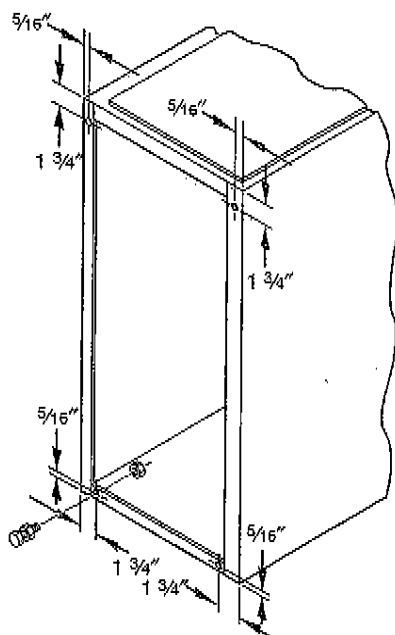

Fig. 7—Leveling Leg Installation
When the furnace is used with side inlet(s) and leveling legs are required, refer to Fig. 7, and install field-supplied, corrosion-resistant 5/16-in. machine bolts and nuts.
1. Lay furnace on its back. Locate and drill 5/16-in. diameter hole in each bottom corner of furnace as shown in Fig. 7.